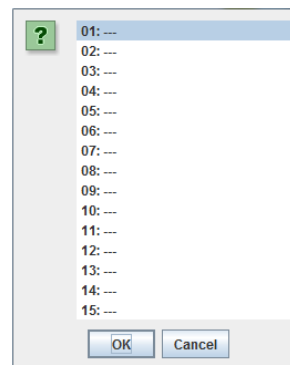

Fig. 35-7
- Accept the preset button with "ok" or select a different button. (Fig. 35-7)